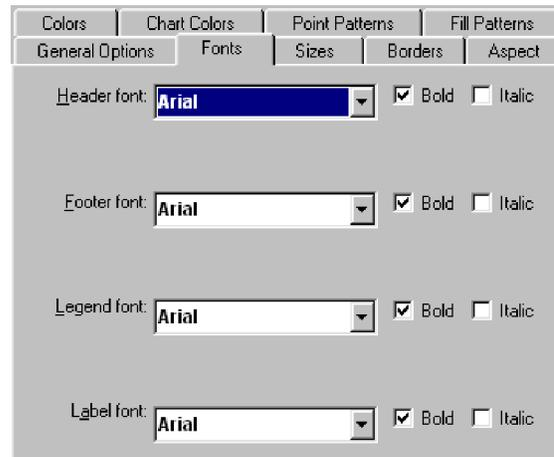

Figure 8.14 *Graph Options dialog box: Fonts tab*
- 2 In the **Graph Options** dialog box, click the **Font** tab (Figure 8.14).